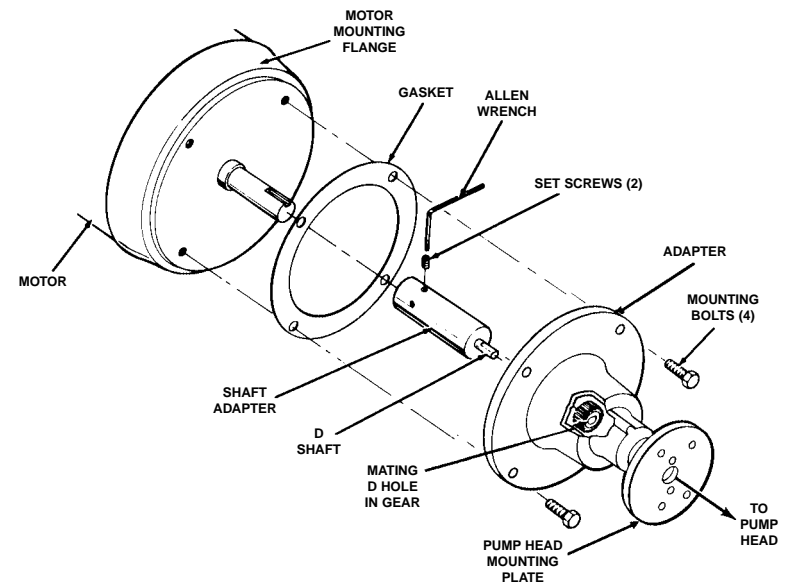

Figure 1: Adapter components aligned with a drive motor and pump head.
(1) Mount the Motor Drive
(2) Install the Shaft Adapter
- Figure 1 shows the proper alignment of all components: